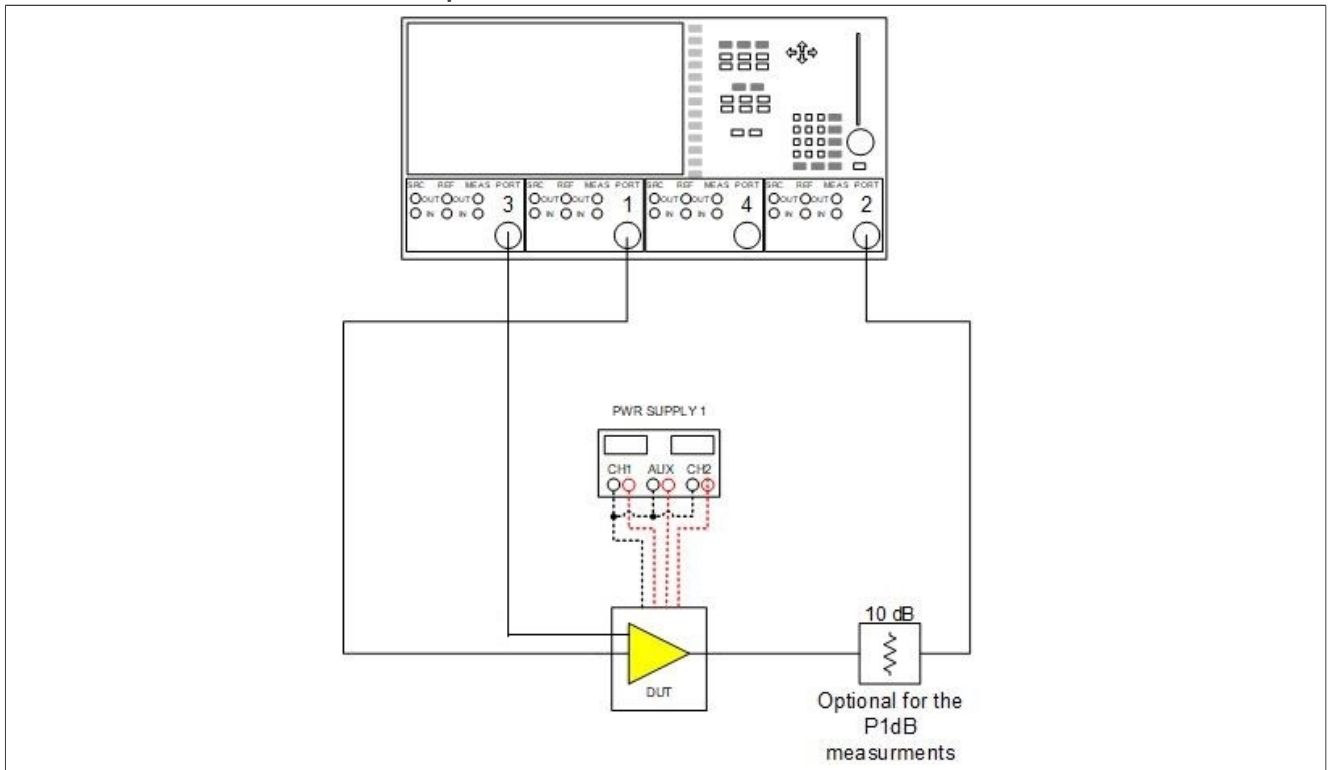

Figure 20. S-parameter and P_{1dB} gain compression setup
The measured S-parameters and Rollett stability factor K, are given in the graphs below. For the measurements, a typical BTS6305C EVB is used. All the S-parameter measurements have been carried out using the setup Figure 20.
The P_o and Gain are measured versus P_i using the setup shown in Figure 20.
The OP1dB is measured using the setup shown in Figure 20.
1. Connect the EVB to a calibrated network analyzer see Figure 20, we advise the following settings for S-parameter measurements: